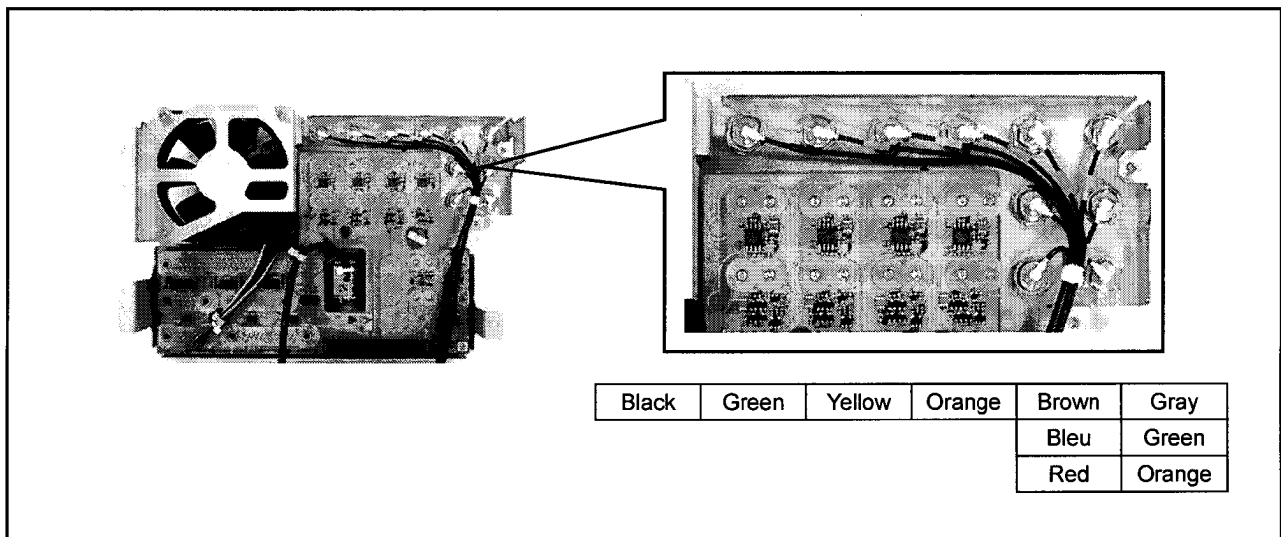

Figure 10-2
2. When installing the SDI cable, connect it according to the color of the mark band as shown in figure 10-2.